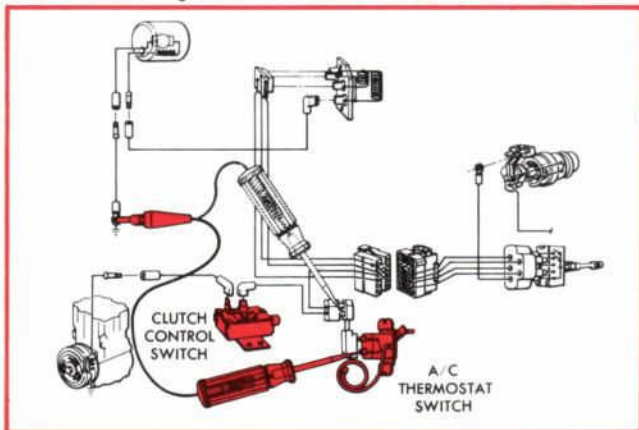

Figure 18—Testing Thermostatic Switch-to-Clutch Control Circuit
3. If the light still doesn't burn, move the test probe to the connection between the thermostatic switch and the clutch switch (Fig. 18). A glowing light here tells you the lead between the switches is open or damaged. Repair or replace. If the light still doesn't burn, test for power to the thermostatic switch.